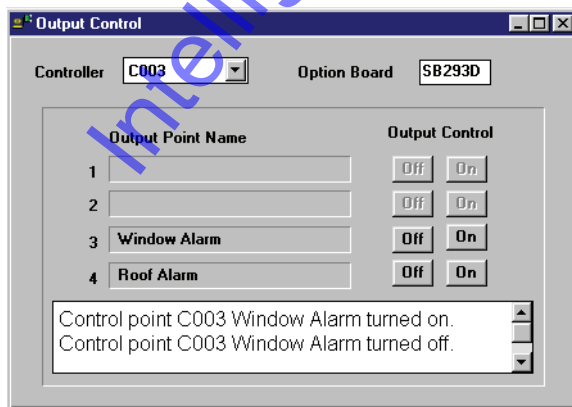

Figure 6-42: Toggled Output Points
5. The status field at the bottom of the window displays the results of the operations performed (see Figure 6-42).